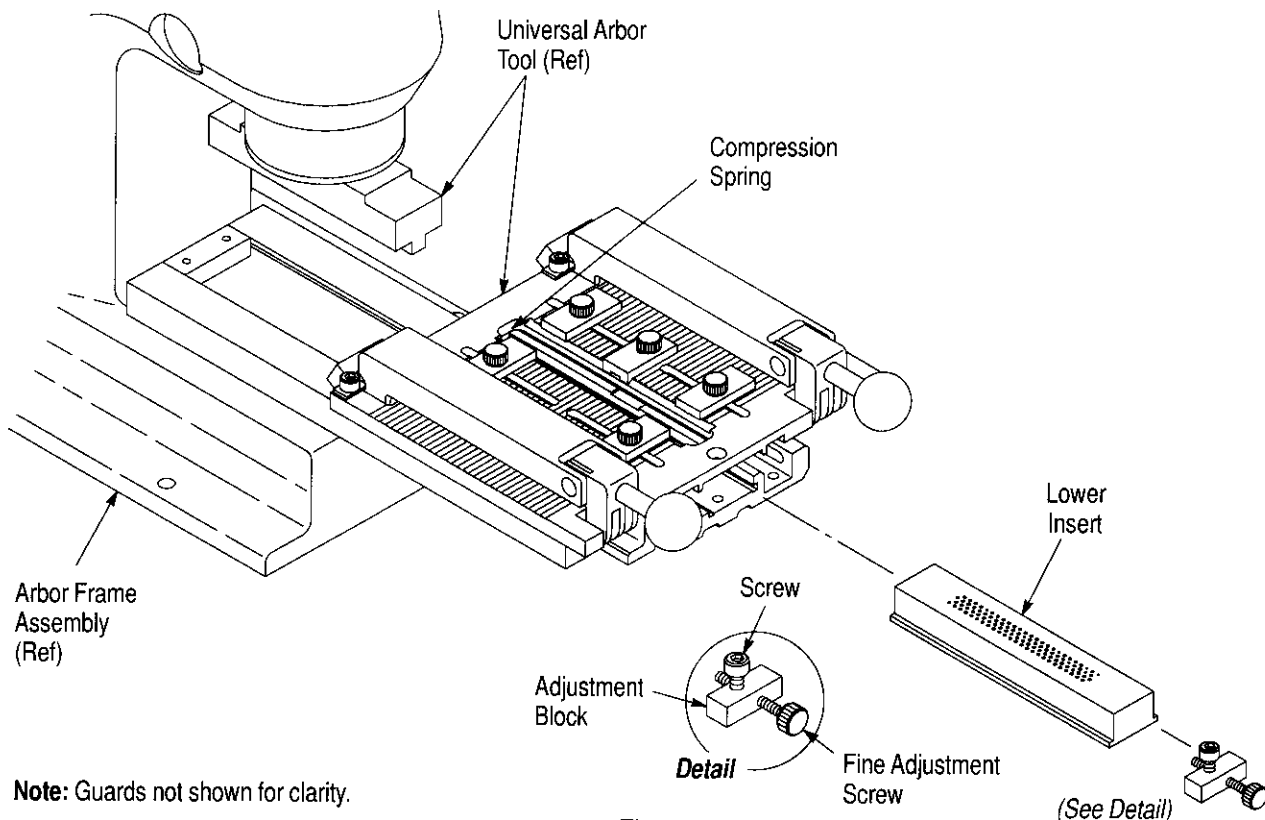

Figure 2
1. Remove the screw that secures the adjustment block to the universal arbor tool, then remove the adjustment block. Slide the lower insert onto the base assembly until it is against the compression spring. See Figure 2.
screw is closest to the right side and bottom side of the block. See detail in Figure 2.